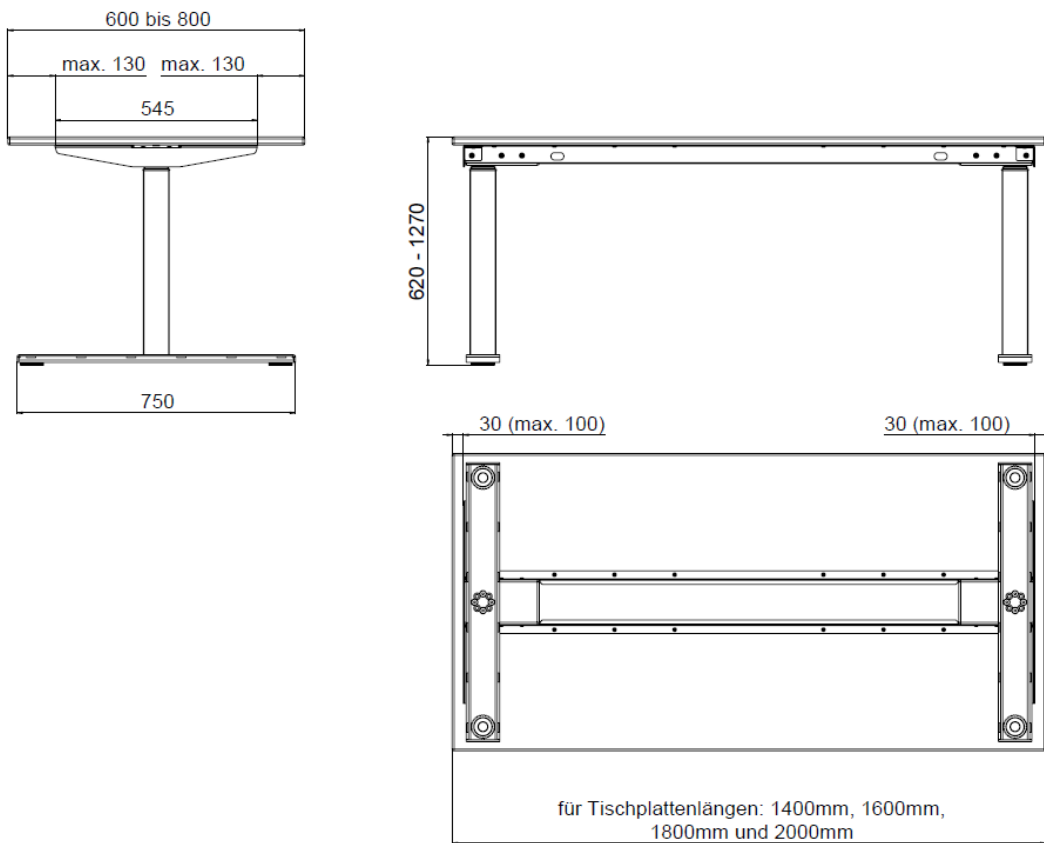

Figure 9 Alignment of the table base frame with the tabletop
- Follow the instructions regarding the assembly of the table base frame with the tabletop specified in the schematic diagram of the table base frame (figure 9).
- The table base frame is suitable for tabletops with a depth of 600 mm – 800 mm, see figure 9.
- The tabletop should not protrude more than 100mm on the longitudinal side over the table base frame, see figure 9.
- The tabletop should not protrude more than 130 mm on the narrow side over the table base frame, see figure 9.